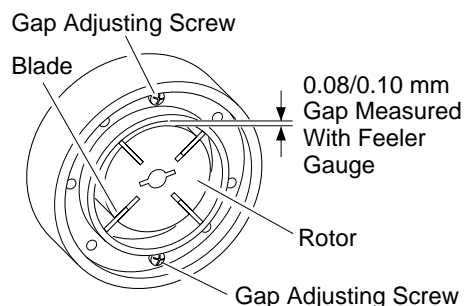

Figure 21 - Gap Adjusting Screw Locations
9. Check gap on rotor. Adjust to 0.08/0.10 mm if needed (see Figure 21). **Note:** Rotate rotor one full turn to insure the gap is 0.08/0.10 mm at tightest position. Adjust if needed.